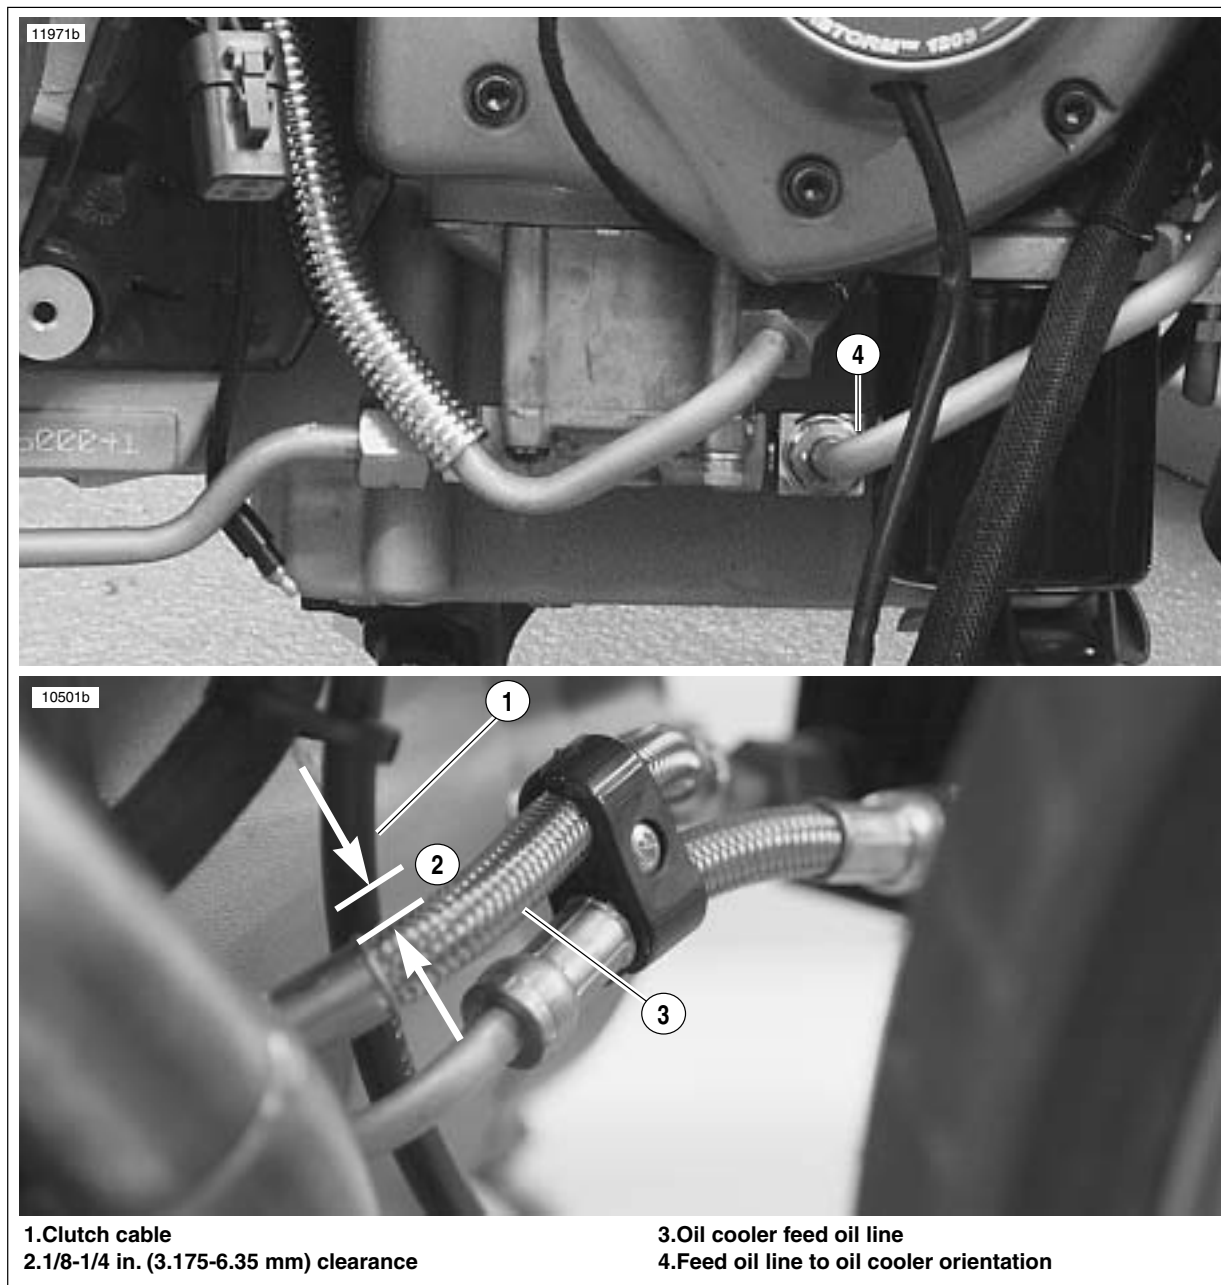

Figure 3-47. Oil Cooler Feed Oil Line Orientation (Approximately 2 O'Clock) and Oil Line Clearances
- See Figure 3-47. It is important to maintain an orientation of approximately 2 o'clock with the rigid part of the feed oil line running to the oil cooler. Also be aware of the 1/8-1/4 (3.175-6.35 mm) clearance specified between the feed oil line and the clutch cable at the front of the crankcase.